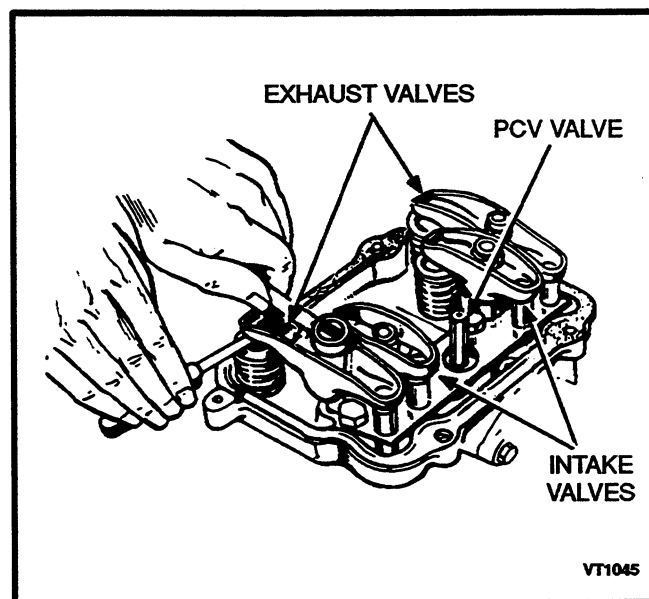

FIGURE 7-5. CHECK VALVE CLEARANCE
4. Using a feeler gauge, check the clearance between the rocker arm and the valve (Figure 7-5). Increase or decrease the clearance until the proper gap is established. Valve clearances are listed in the *Specifications* section.